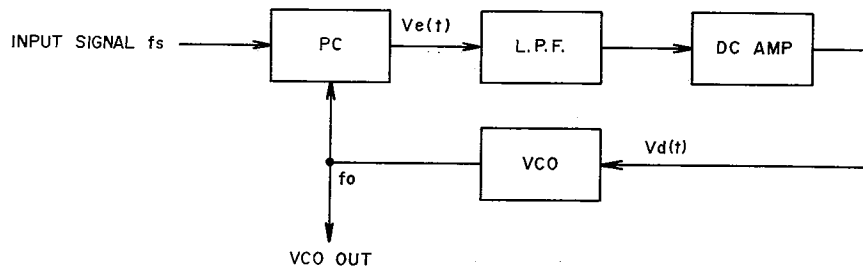

Fig. 13 PLL Circuit
PLL circuit is a kind of feedback circuit and is comprised of a Phase Comparator (PC), a Low Pass Filter (LPF), a Direct Current Amplifier (DC Amp.), and a Voltage Control Oscillator (VCO) as shown in Fig. 13. The PC compares input signal  $F_s$  and VCO oscillator output and generates the difference in signal voltage  $V_e(t)$  proportionately to this phase deviation. This  $V_e(t)$  passes LPF and the DC Amp. and becomes control voltage. This control voltage supplied to VCO and VCO oscillation frequency is DC controlled. When there is no input signal  $F_s$ , because there is also no  $V_e(t)$ , control voltage  $V_d(t)$  becomes zero, and VCO maintains a \*Free-running oscillation frequency. When a signal enters, VCO oscillation frequency  $F_o$  is controlled to narrow the difference between  $F_s$  by means of feedback as described above, and the PLL circuit assumes a synchronous condition. This is referred to as input signal lock. (In case the difference between  $F_o$  and  $F_s$  is too large, the differential signal frequency becomes high and is reduced at the LPF. However, because the VCO control voltage does not change, PLL will not stay within the \*lock range).